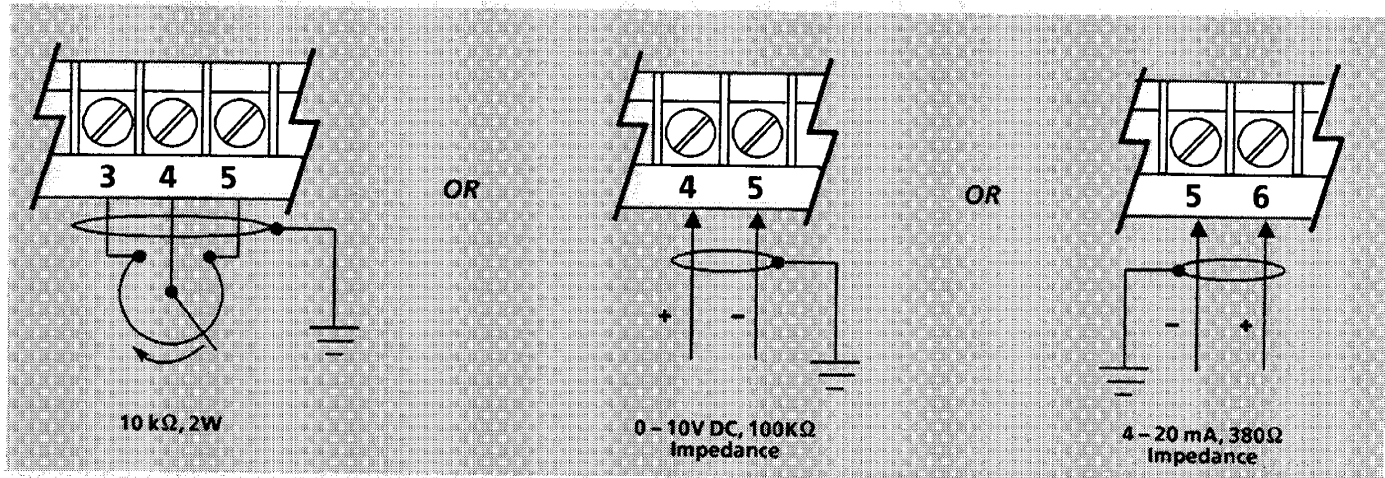

Figure 3-4. Remote Speed Reference Connections
- 3, 4, 5 & 6:** These terminals are available for connection to a 10k $\Omega$ , 2W Speed Potentiometer, a zero to 10V DC supply (input impedance, 100k ohm) or a 4 to 20 mA supply (input impedance, 380 ohm) signal. Only one speed reference signal may be connected to the Drive remote reference terminals at a time. Figure 3-4 indicates the connections if a remote speed reference is desired. Switch SW4 must be in the REMOTE position.
**WARNING:** Incorrect polarity of remote inputs may cause personal injury from uncontrolled machine motion. Connect remote inputs (terminals 4 & 5 or terminals 5 & 6) only as shown in Figure 3-4.